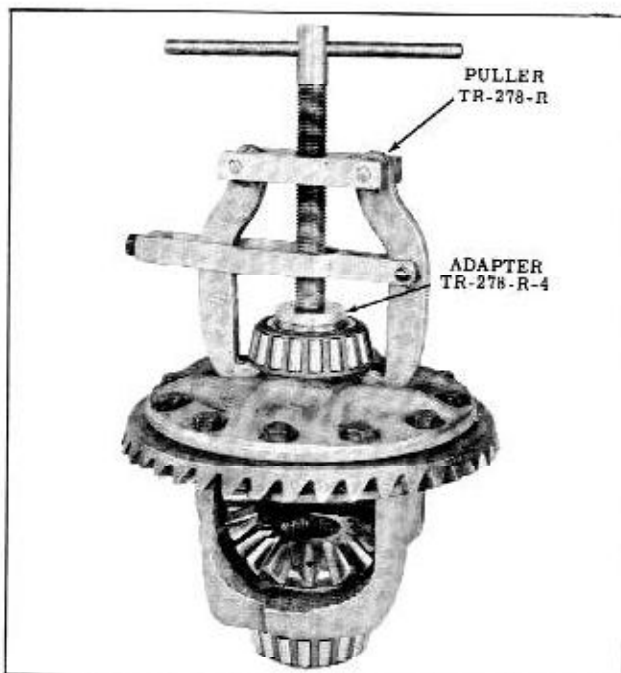

Fig. 6-17 Removing Side Bearings
1. If side bearings are to be removed, use Differential Side Bearing Remover TR-278-R and Adapter TR-278-R-4 as shown in Fig. 6-17. Be sure ends of puller are placed in recess in differential case.